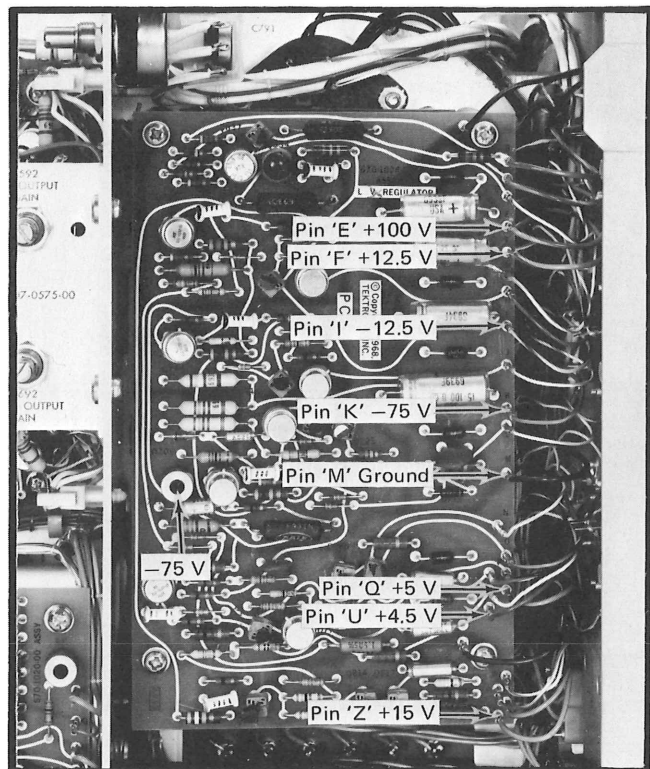

Fig. 1-1. L.V. REGULATOR circuit board: Location of test points and adjustment in steps 1 through 3.
c. Connect the negative lead of the DC voltmeter to ground, pin M on the L. V. REGULATOR board, (See Fig. 1-1). Connect the positive lead to the -75 volt supply, pin K. Be sure the polarity of the DC voltmeter is set for measuring a negative voltage.
e. ADJUST—R721, -75 -V adjustment (see Fig. 1-1) if the voltage is not correct.